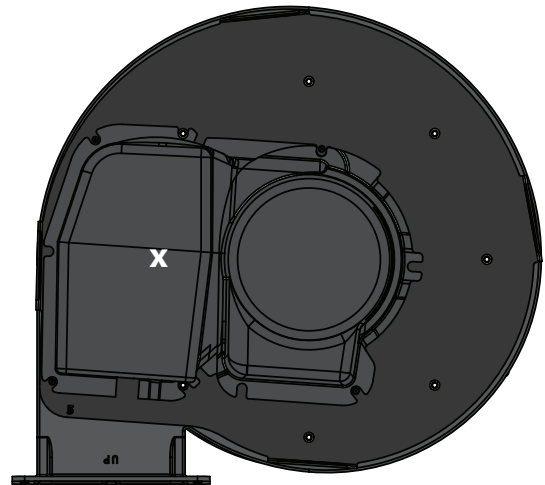

FIG. 6a
Carefully lift Motor Assembly (A) to top of Fan Housing (B) and align the Fan Housing holes with the motor plate holes following the orientation shown in [FIG. 6a].
Note: The eighth hole on the Fan Housing (B) does not require a bolt because it is inaccessible [FIG. 6a].